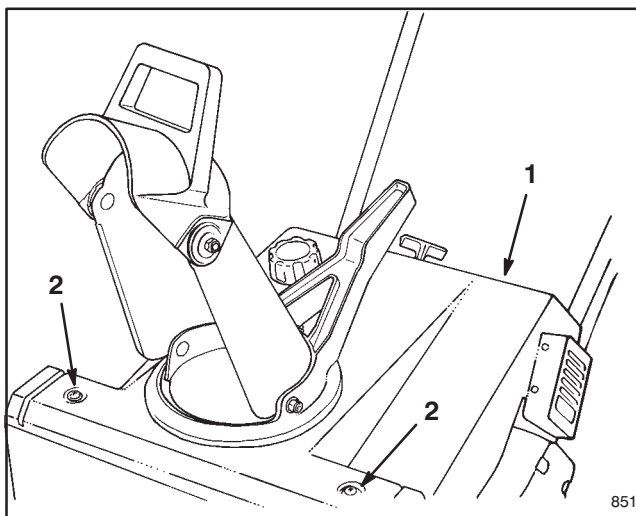

Figure 1
1. Remove (2) two bolts from front of upper shroud (Fig. 1).